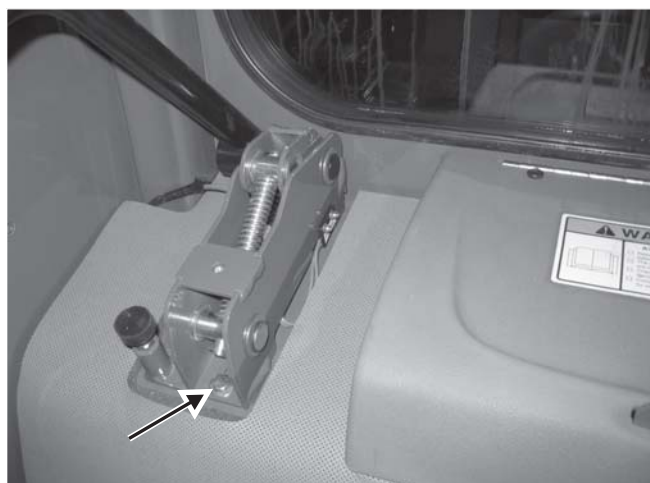

Fig. 4-25 Location of screw securing front of right restraint bar pivot to the ROPS.
5. Remove one screw on each side securing front of restraint bar pivot to ROPS. Lift restraint bar up and out of loader. **Figs. 4-25, 4-26**